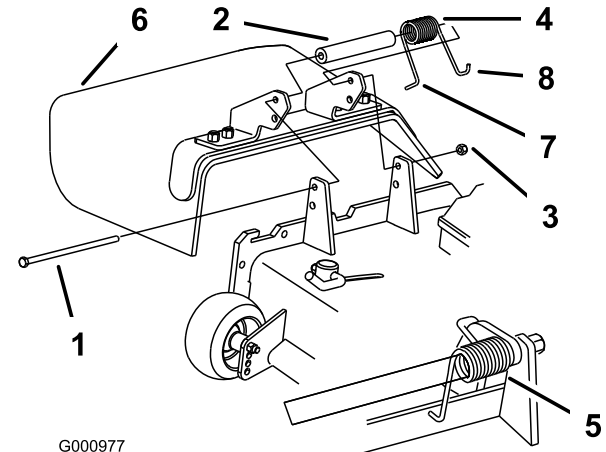

Figure 99
1. Remove the locknut, bolt, spring and spacer holding the deflector to the pivot brackets (Figure 99). Remove the damaged or worn grass deflector.
**Note:** Make sure the **L** end of the spring is installed behind the deck edge before installing the bolt as shown in Figure 99.
3. Install the bolt and nut. Place the **J** hook end of the spring around the grass deflector (Figure 99).